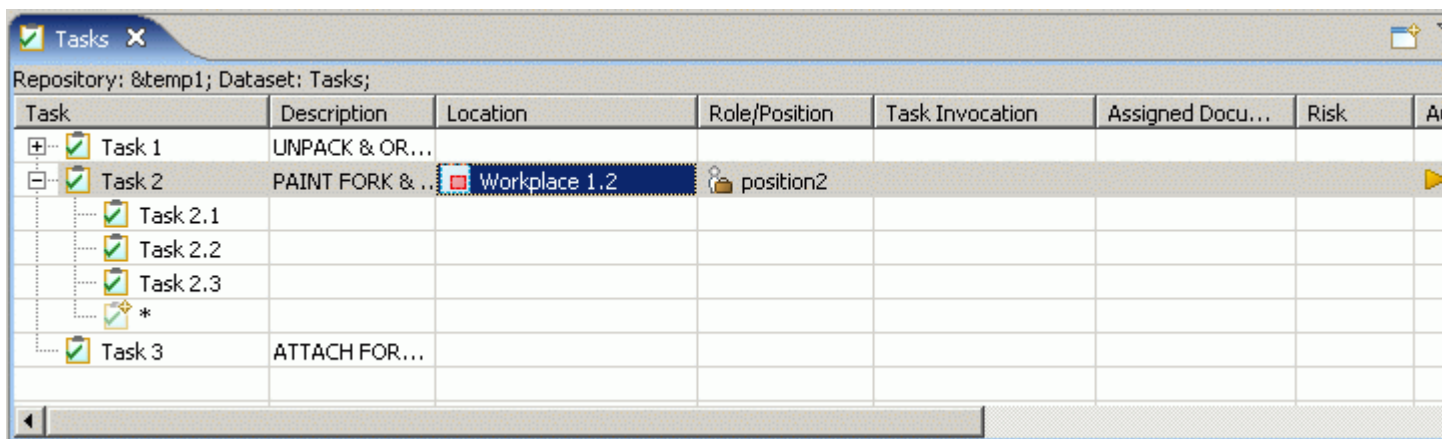

Figure 3. Zonal breakdown 'Workplace_1.2' assigned to Task 'Task 2'
- Release the mouse button when you have the selected  zonal breakdown in the desired location. The  zonal breakdown you've selected is moved to the **Location** column of the desired  task in the  **Tasks** window tree table (see Figure 3).